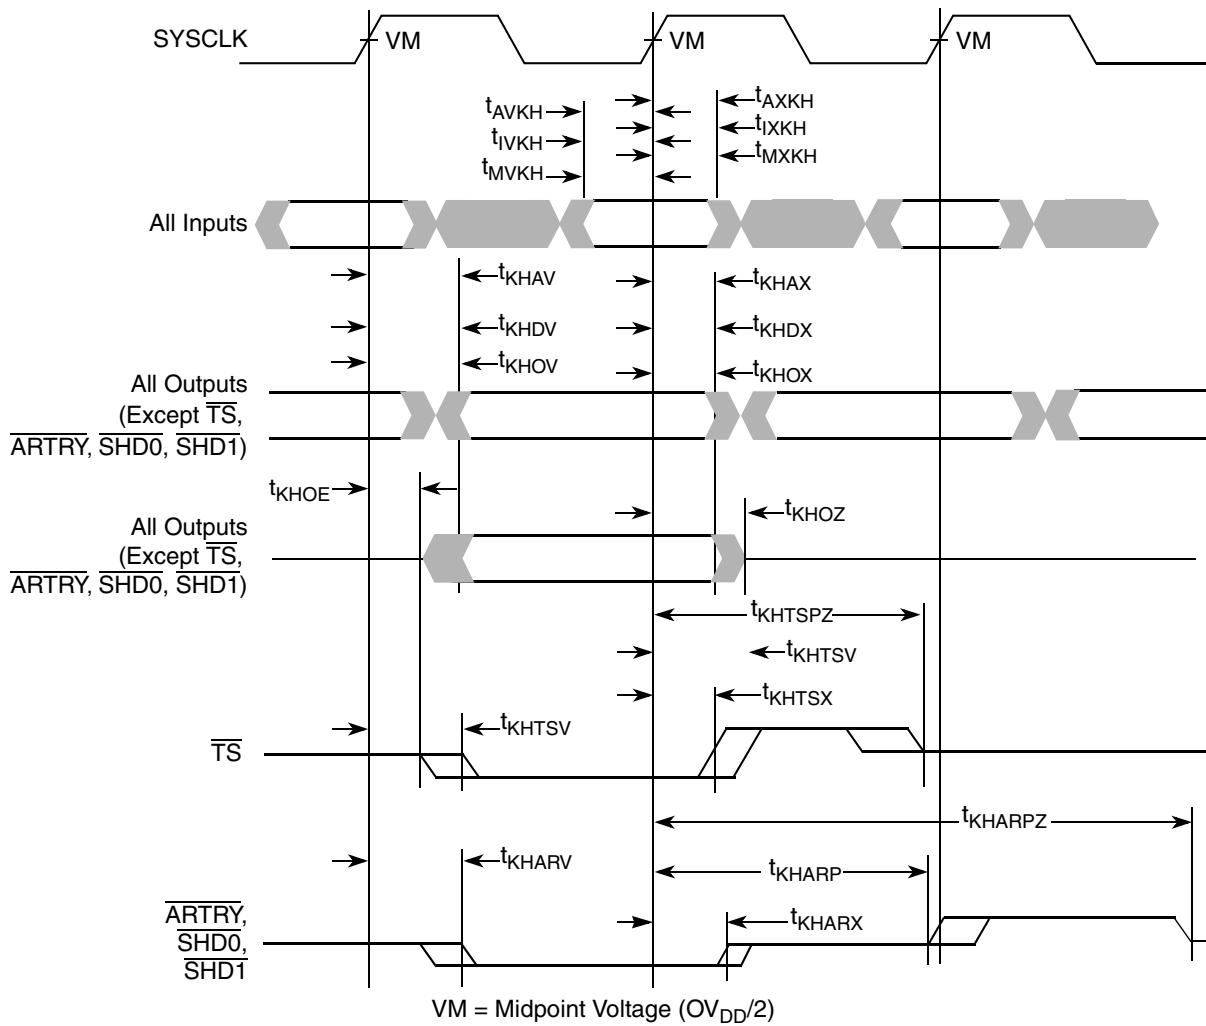

Figure 6. Input/Output Timing Diagram
Table 8 provides the clock AC timing specifications as defined in Figure 6 and represents the tested operating frequencies of the devices. The maximum system bus frequency,  $f_{\text{SYSCLK}}$ , given in Table 8 is considered a practical maximum in a typical single-processor system. The actual maximum SYSCLK frequency for any application of the MPC7457 will be a function of the AC timings of the MPC7457, the AC timings for the system controller, bus loading, printed-circuit board topology, trace lengths, and so forth, and may be less than the value given in Table 8. For information regarding the use of spread spectrum clock generators, see Section 9.1.3, “System Bus Clock (SYSCLK) and Spread Spectrum Sources.” PLL configuration and bus-to-core multiplier information is found in Section 9.1.1, “Core Clocks and PLL Configuration.”
2. The symbology used for timing specifications herein follows the pattern of  $t_{(\text{signal})(\text{state})(\text{reference})(\text{state})}$  for inputs and  $t_{(\text{reference})(\text{state})(\text{signal})(\text{state})}$  for outputs. For example,  $t_{\text{VKKH}}$  symbolizes the time input signals (I) reach the valid state (V) relative to the SYSClk reference (K) going to the high (H) state or input setup time. And  $t_{\text{KHOV}}$  symbolizes the time from SYSClk(K) going high (H) until outputs (O) are valid (V) or output valid time. Input hold time can be read as the time that the input signal (I) went invalid (X) with respect to the rising clock edge (KH) (note the position of the reference and its state for inputs) and output hold time can be read as the time from the rising edge (KH) until the output went invalid (OX).
4. According to the bus protocol,  $\overline{\text{TS}}$  is driven only by the currently active bus master. It is asserted low then precharged high before returning to high impedance as shown in Figure 6. The nominal precharge width for  $\overline{\text{TS}}$  is  $0.5 \times t_{\text{SYSClk}}$ , that is, less than the minimum  $t_{\text{SYSClk}}$  period, to ensure that another master asserting  $\overline{\text{TS}}$  on the following clock will not contend with the precharge. Output valid and output hold timing is tested for the signal asserted. Output valid time is tested for precharge. The high-impedance behavior is guaranteed by design.
6. According to the bus protocol,  $\overline{\text{ARTRY}}$  can be driven by multiple bus masters through the clock period immediately following  $\overline{\text{AACK}}$ . Bus contention is not an issue because any master asserting  $\overline{\text{ARTRY}}$  will be driving it low. Any master asserting it low in the first clock following  $\overline{\text{AACK}}$  will then go to high impedance for one clock before precharging it high during the second cycle after the assertion of  $\overline{\text{AACK}}$ . The nominal precharge width for  $\overline{\text{ARTRY}}$  is  $1.0 t_{\text{SYSClk}}$ ; that is, it should be high impedance as shown in Figure 6 before the first opportunity for another master to assert  $\overline{\text{ARTRY}}$ . Output valid and output hold timing is tested for the signal asserted. The high-impedance behavior is guaranteed by design.
Figure 6 provides the input/output timing diagram for the MPC7457.